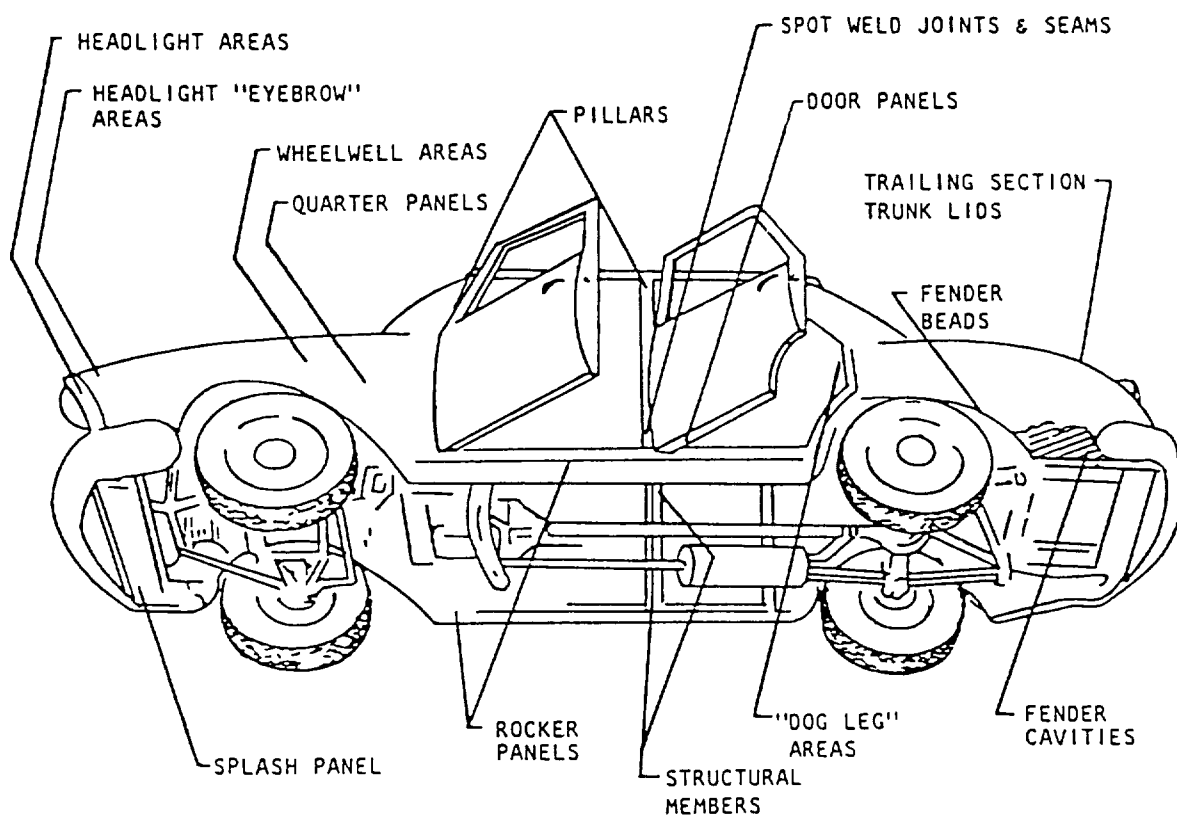

FIGURE 2. Vehicle areas to be rustproofed.
- a. Splash panel (see figure 2)
- b. Sheet metal header (see figures 2, 5, 6, 7, 8)
- c. Light wells (see figures 2, 6, 7, 8)
- d. Fenders and quarter panels (see figures 2, 6, 7, 8)
- g. Rocker panel and dog legs (see figures 2, 3, 6, 7, 8)
- h. Seams and moldings (see figures 2, 6, 7, 8)
- j. Structural members (see figures 2, 6, 7, 8)
- k. Center door and windshield posts (see figures 2, 4, 6, 7, 8)
- l. Front and rear door pillars (see figures 2, 6, 7, 8)
- n. Trunk lid and lower rear beads (see figures 2, 6)